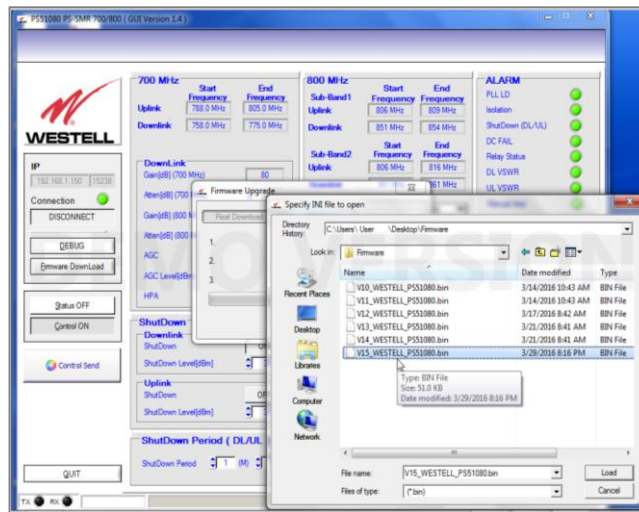
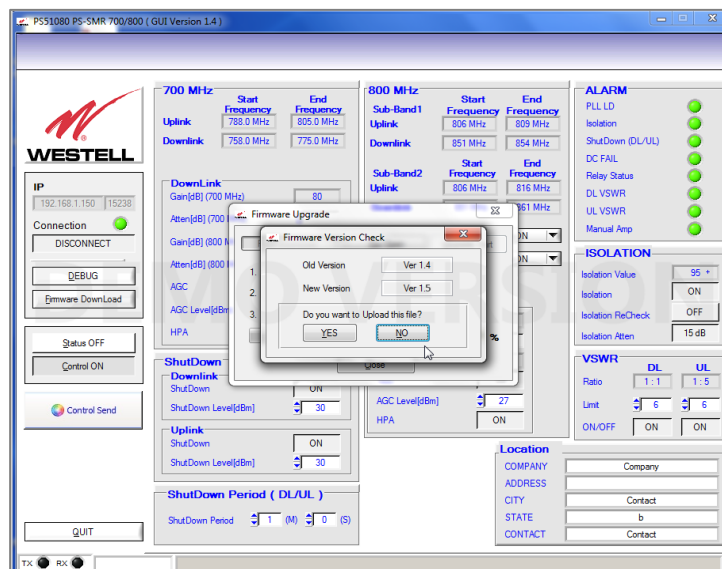
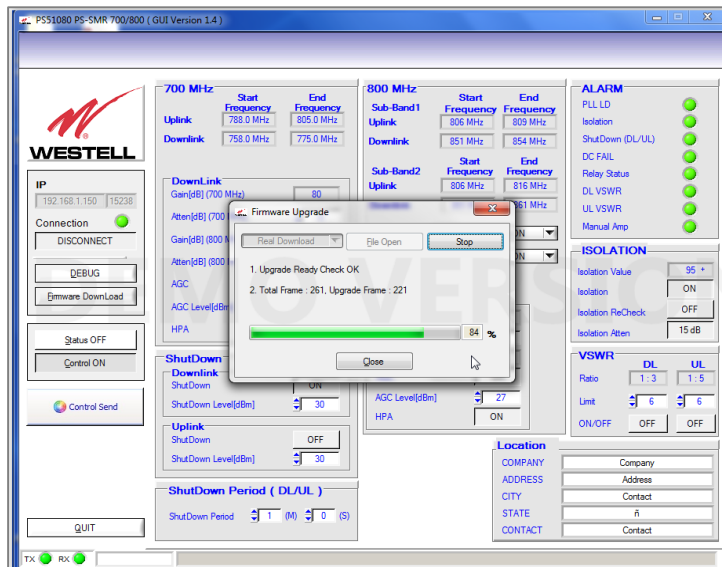

Figure 7-7: Navigate to the New Software BIN File
Figure 7-8: Firmware Version Check
Figure 7-9: File Upload Begins
4. When the **Select INI File to Open** browser displays, navigate to the location of the new software version BIN file, Figure 7-7.
6. Click  in the **Specify INI File to Open** browser window, Figure 7-7. The Firmware Version Check dialog window displays, Figure 7-8.
7. Click  in the Firmware Version Check dialog window, Figure 7-8. The firmware upgrade begins, as indicated by the progress bar in the Firmware Version Check window, Figure 7-9.